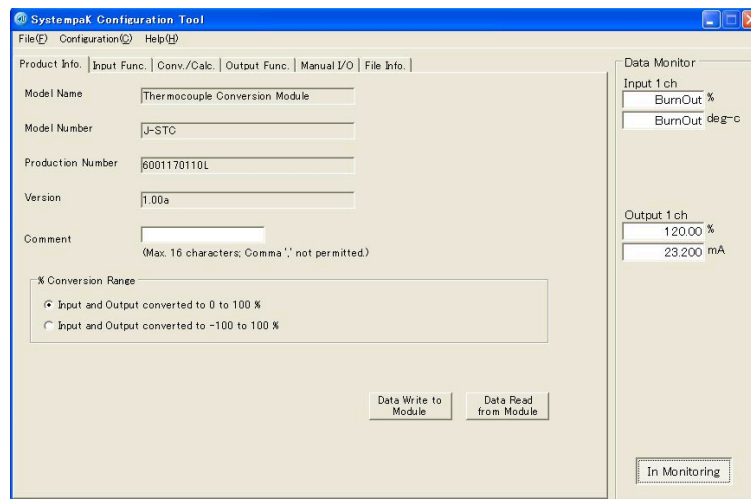

Fig. 5-2. Product information tab screen
(4) Select each tab shown on the screen (Fig. 5-2 to 5-7).